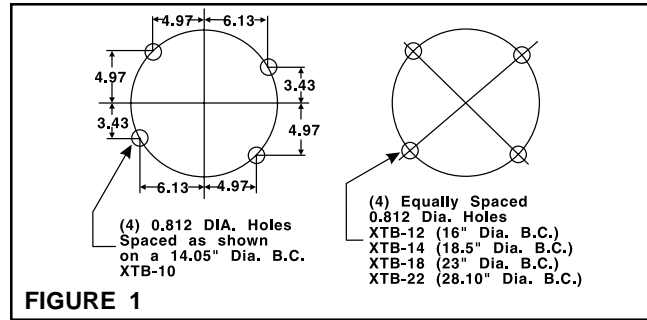

FIGURE 1
- Using the machine shaft as a center point, scribe a bolt circle on the machine surface (See Figure 1).
- Drill four holes spaced as shown (See Figure 1).